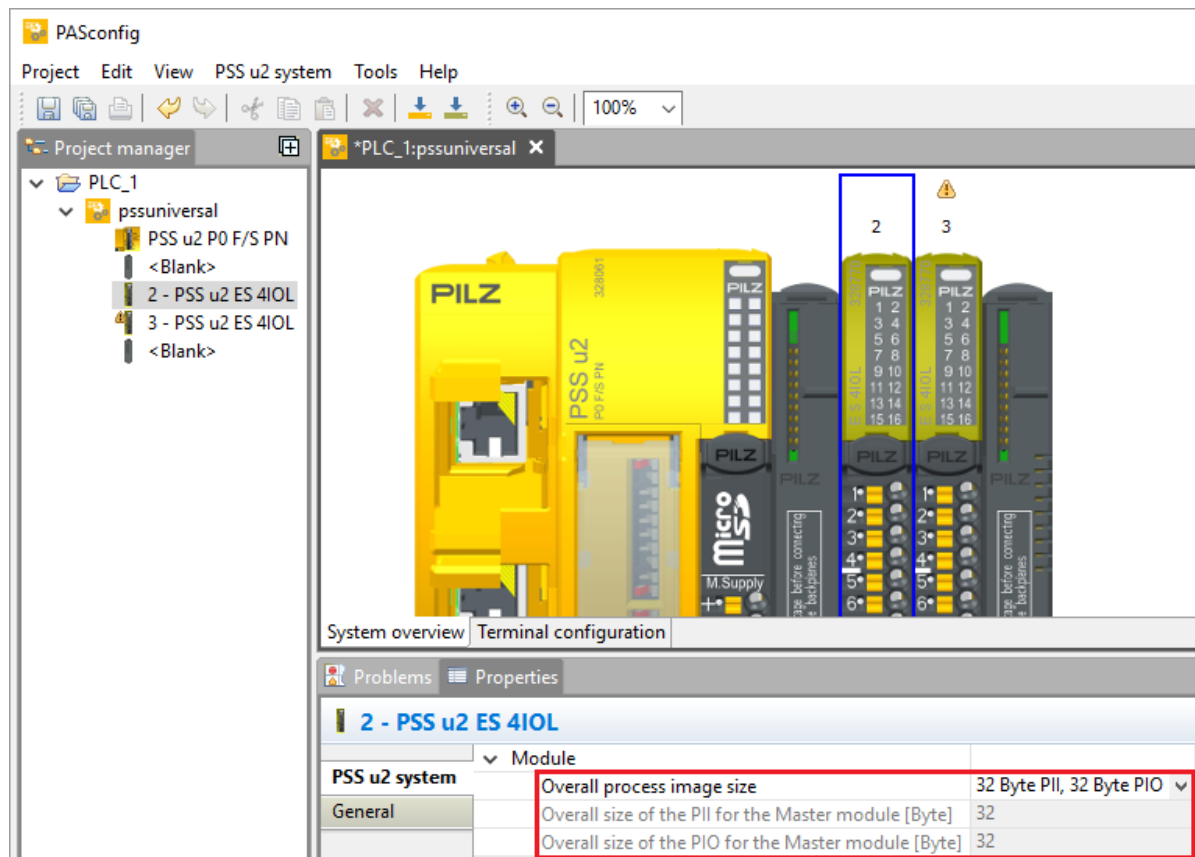

Figure 15: PASconfig – Process image IO-Link Master 1
- ▶ Select submodules with the corresponding data size. The data size must be identical to the one configured in PASconfig, see Figure 15: PASconfig – Process image IO-Link Master 1.